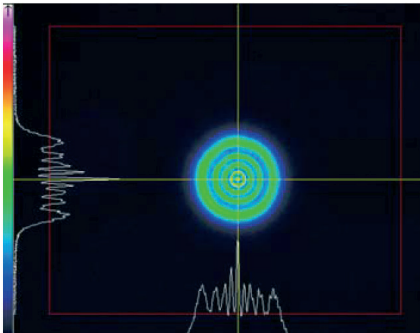

Figure 4. Centering crosshair.
b. By **using Lateral shifts only (X; Y)** get symmetric diffraction pattern that is centered with the crosshair (fig. 4).